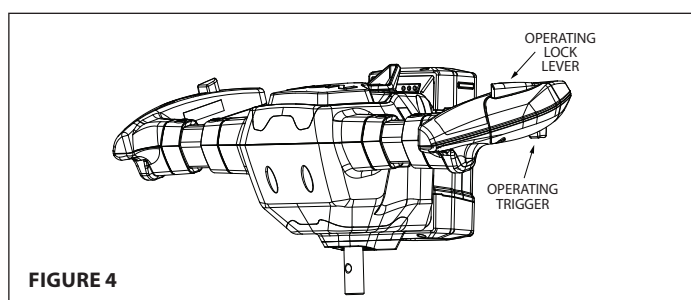

FIGURE 4
2. Depress the operating lock lever, then squeeze the operating trigger. Following a 1/2 second safety delay, the auger will then start drilling. **SEE FIGURE 4**